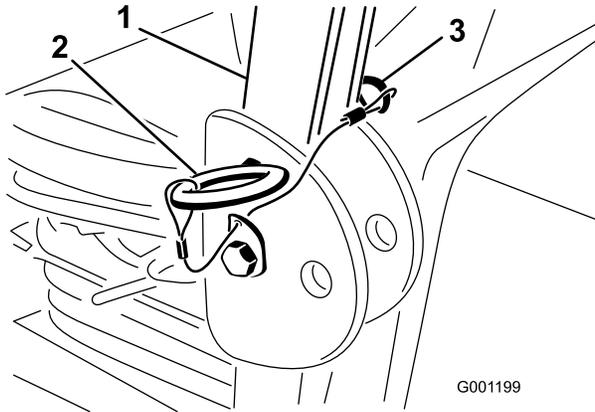

Figure 8
1. Remove the hairpin cotter pins and remove the 2 pins from the roll bar (Figure 8).
2. Raise the roll bar to the upright position and install the 2 pins and secure them with the hairpin cotters (Figure 8).